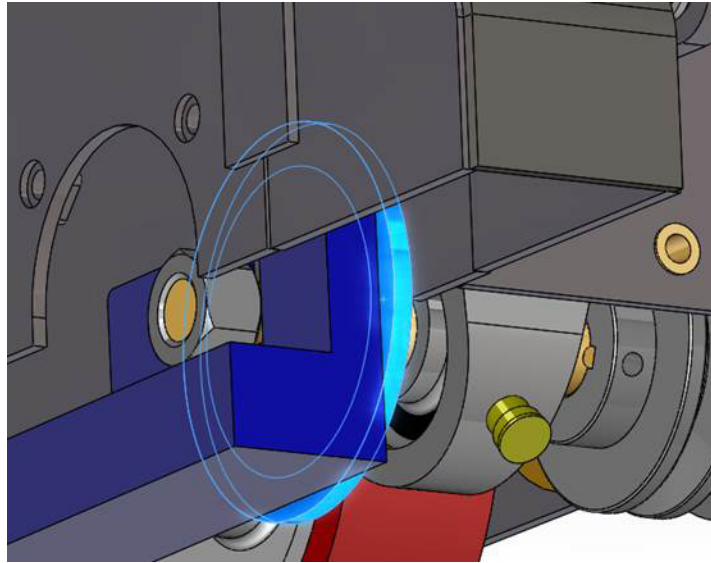

Figure 10. Blade Flange Flush
9. Ensure blade flange face is completely flush with alignment tool face (Figure 10).